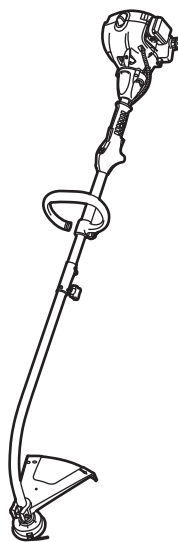

Fig.10
- > Adjust to 90° when trimming grass on the flat ground (Fig. 10).